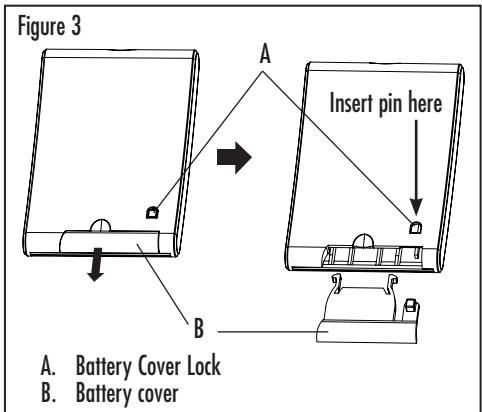

Figure 3
1. Locate the battery compartment on the back of the remote control handset. Insert a small object (such as a pin or paper clip) into the hole of the battery cover lock (see Figure 3) and slide out the battery cover.